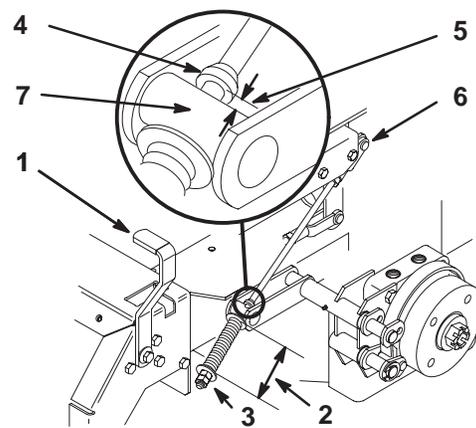

Figure 60
2. Measure the length of the spring. The measurement should be 2-3/4 in. (70 mm) between the washers (Fig. 60).
3. If an adjustment is necessary, loosen the jam nut below the spring and tighten the nut directly below the yoke (Fig. 60). Turn the nut until the correct measurement is obtained. Tighten the two nuts together and repeat on the opposite side of the unit.
6. Measure the distance between the trunnion roller and the collar on brake rod. The measurement should be 3/16-1/4 in. (5-7 mm) (Fig. 60).
7. If an adjustment is necessary, loosen the jam nut directly below the yoke. Turn the bottom adjusting nuts until the correct measurement is obtained (Fig. 60). Tighten the jam nut at the yoke.